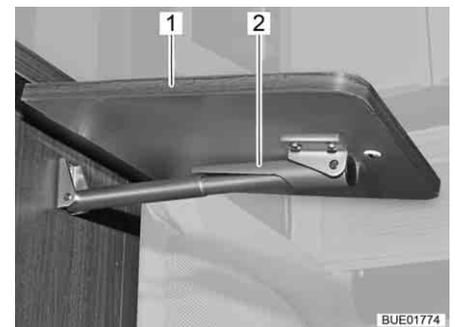

Fig. 138 Folding worktop, unlocked
- Slightly lift the folding worktop (Fig. 138,1). With your other hand, push the fixture (Fig. 138,2) on the telescopic holder upwards.